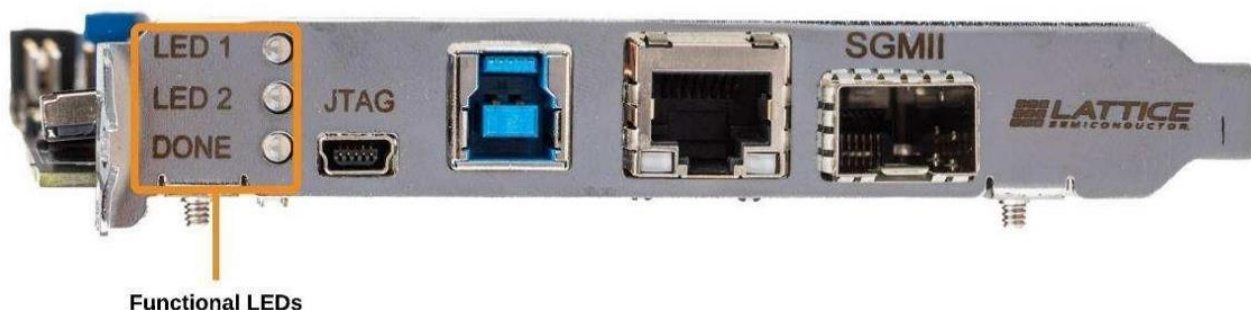

Figure 3.14. Status LED
- For CrossLink-NX devices, refer to Figure 3.14 and Table 3.1.
The three status LEDs are shown in Figure 3.14.